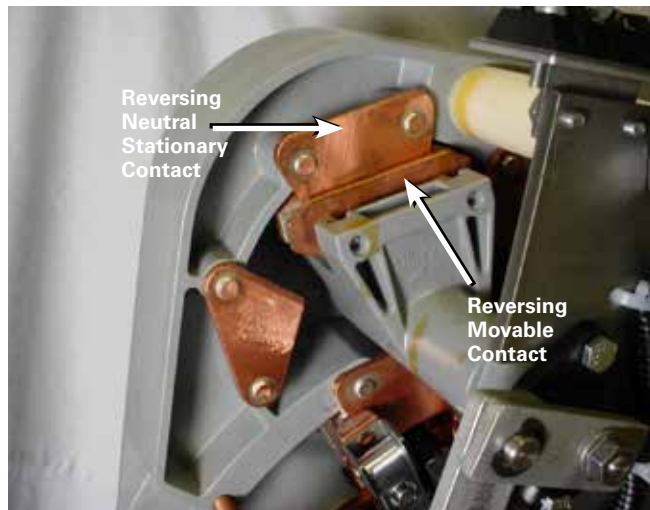

Figure 75. Neutral position for reversing movable.
- B. The reversing movable contact is located on the reversing neutral stationary contact. See Figure 75.